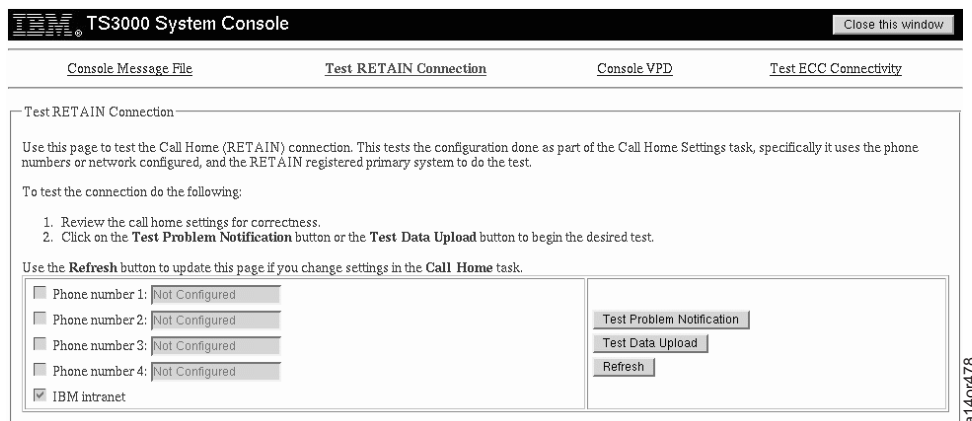

Figure 2-120. Test RETAIN Connection Request Screen - During Installation
4. Click **Console Status**. The Test RETAIN Connection screen shown in Figure 2-120 on page 2-88 appears.